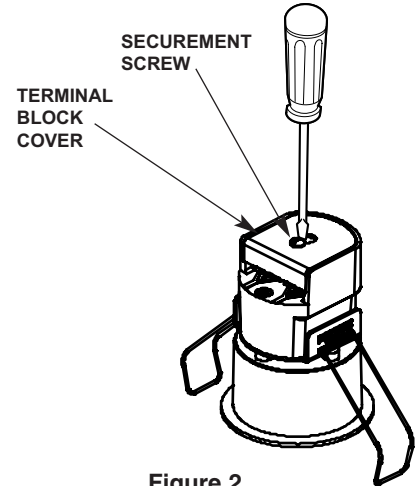
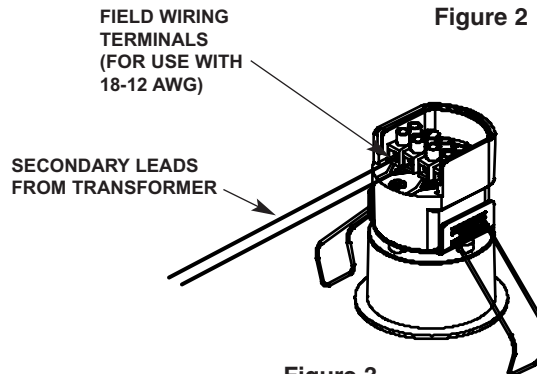

Figure 2
Figure 3
Step 4. Remove terminal block cover located atop fixture (Fig. 2). Insert the two secondary leads into adjacent terminals on the right or left side of the terminal block (Fig 3). (The remaining terminals are for daisy-chain wiring if desired.) Secondary wiring is not polarized. Tighten terminal block screws securely to retain wires. (4 In-lb minimum)